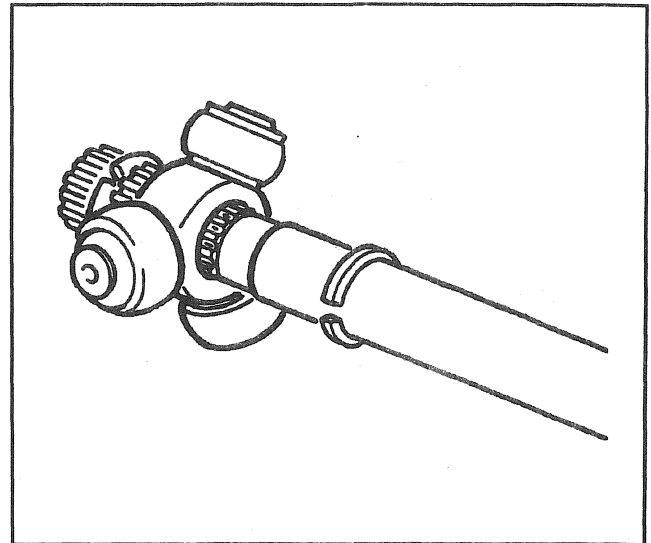

Figure 62—Removing Spider Assembly
- Spread the spacer ring with J 8059 and slide the spacer ring and the tripot spider back on the axle shaft (Figure 62).